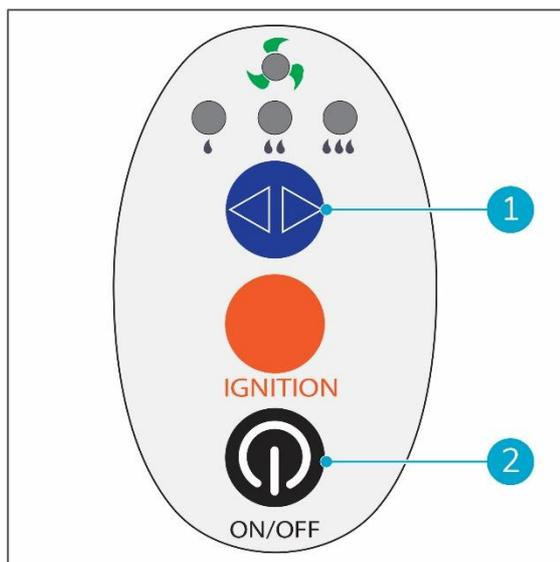

Figure 28
5. Press the ON/OFF button (Figure 28, pos 2) on the handle control.
6. Press the H/M/L multi function button (Figure 28, pos 1).
7. Hold the H/M/L multi function button (Figure 28, pos 1).
9. Press the ON/OFF button (Figure 28, pos 2) on the handle control.